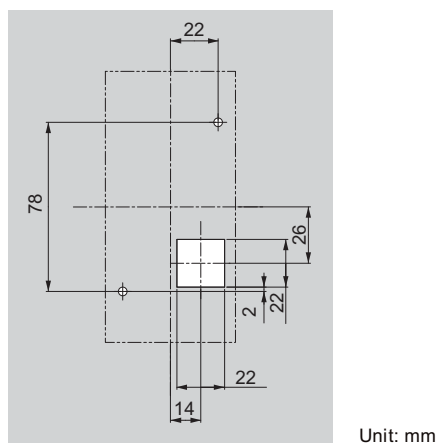

Figure 2.8 Panel Cut-Out Dimensions (External/Face-Mount Installation)
- 1. Cut an opening in the enclosure panel for the digital operator as shown in Figure 2.8.